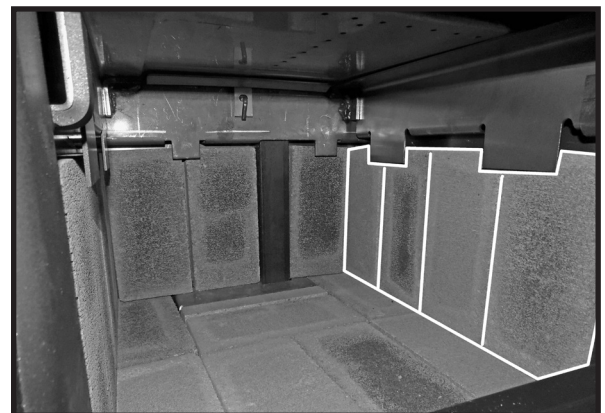

Figure 40: Right wall bricks in place.
5. Place four bricks in behind the right side wall tabs (Figure 40). Again, move the bricks toward the front. Note: Even though the far bricks on both side walls will fit completely behind the rear wall end bricks, do not do this as the resulting gaps in the side wall bricks at the front will be too large.